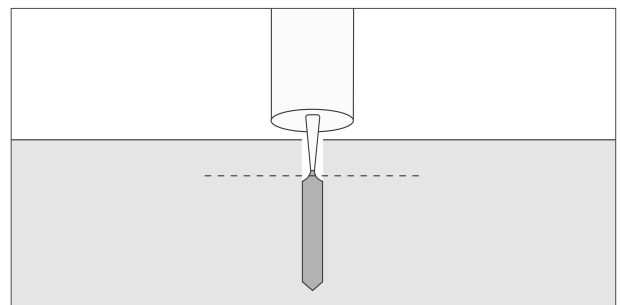

Fig. 3: Fill approx. 75% of the hole with adhesive.
3.3 Fill approximately 75% of the hole with adhesive. Use approx. 1 tube adhesive for 4 adhesive anchors. Follow the manufacturer's instructions for application, curing times etc. (See fig. 3)